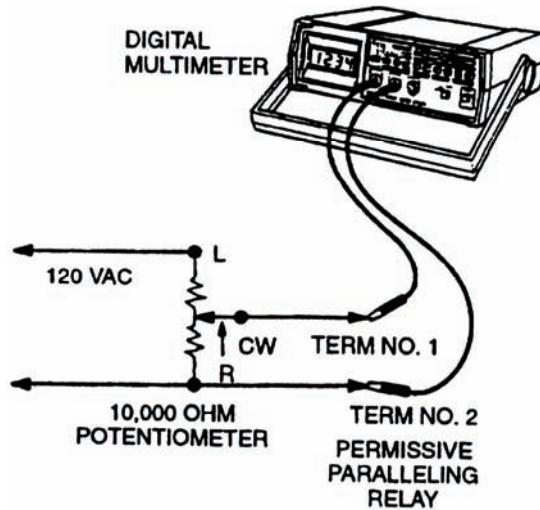

Figure 2-16. Permissive Paralleling Relay Test Setup.
- f. Set up a test circuit (Figure 2-16). Connect 120 VAC source (can be obtained from CONVENIENCE RECEPTACLE) to terminals L and R of potentiometer. Connect a wire from terminal C of potentiometer to terminal 1 of permissive paralleling relay. Connect a second wire from terminal R of potentiometer to terminal 2 of permissive paralleling relay. Set multimeter for AC volts and connect to terminals 1 and 2 of permissive paralleling relay.